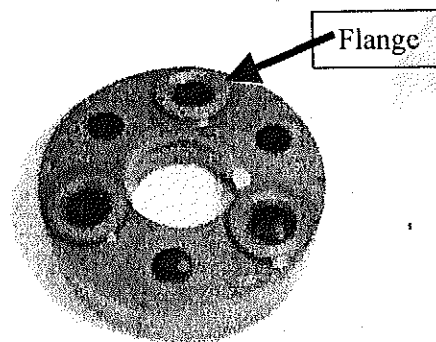

Figure 21
9. Insert the new Phenolic block over the attachment pins. Insert the attachment pins into the holes with flanged openings (Figure 21). These flanges touch the surface of the drive gear. Push the Phenolic block until it seats against the gear.